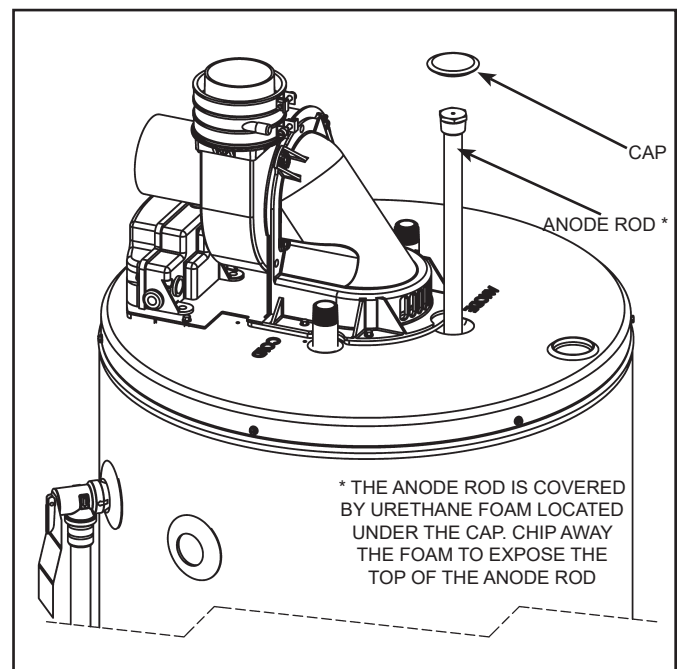

Figure 53.
- See Figure 53 for anode rod location.